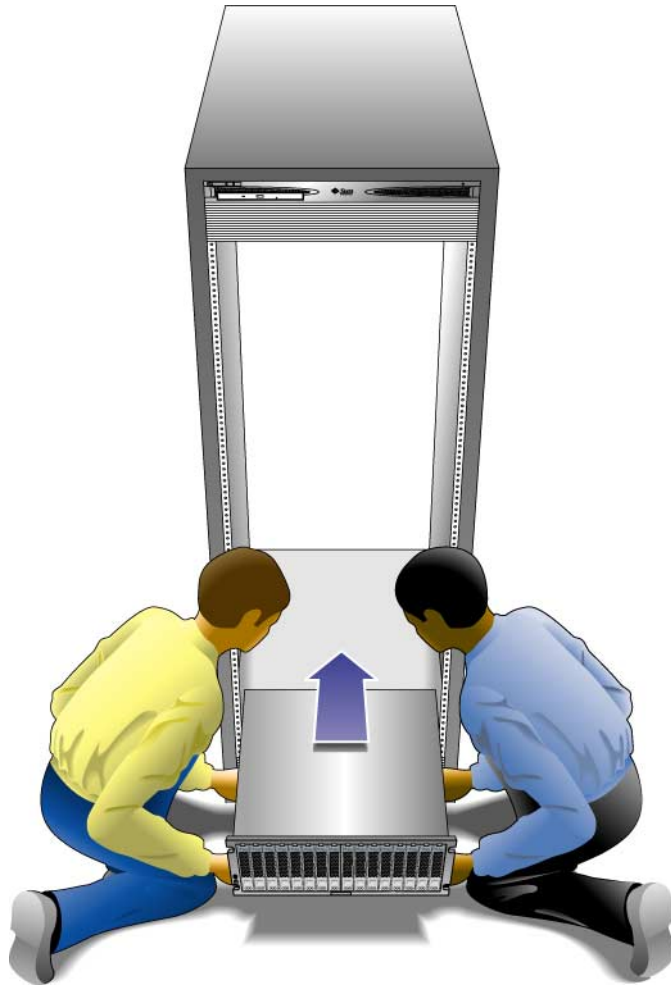

FIGURE 2-30 Positioning the Tray in the Cabinet
1. Using two people, one at each side of the tray, carefully lift and rest the tray on the bottom ledge of the left and right rails (FIGURE 2-30).